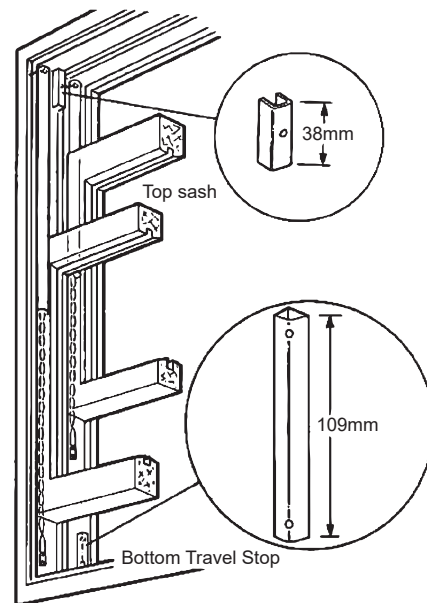

FIG 11
4) Fix travel stops provided, the shorter one at the top of the bottom sash run. (**Fig 11**)